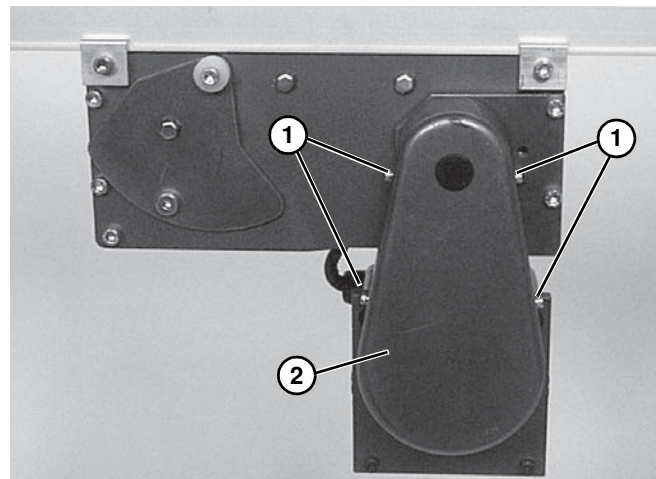

Figure 45
1. Remove cover screws (**Figure 45, item 1**) and remove cover (**Figure 45, item 2**).